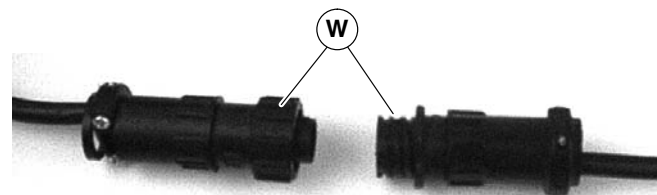

Figure 19
2. For DC variable speed motor, unplug motor cord at disconnect (W of Figure 19).